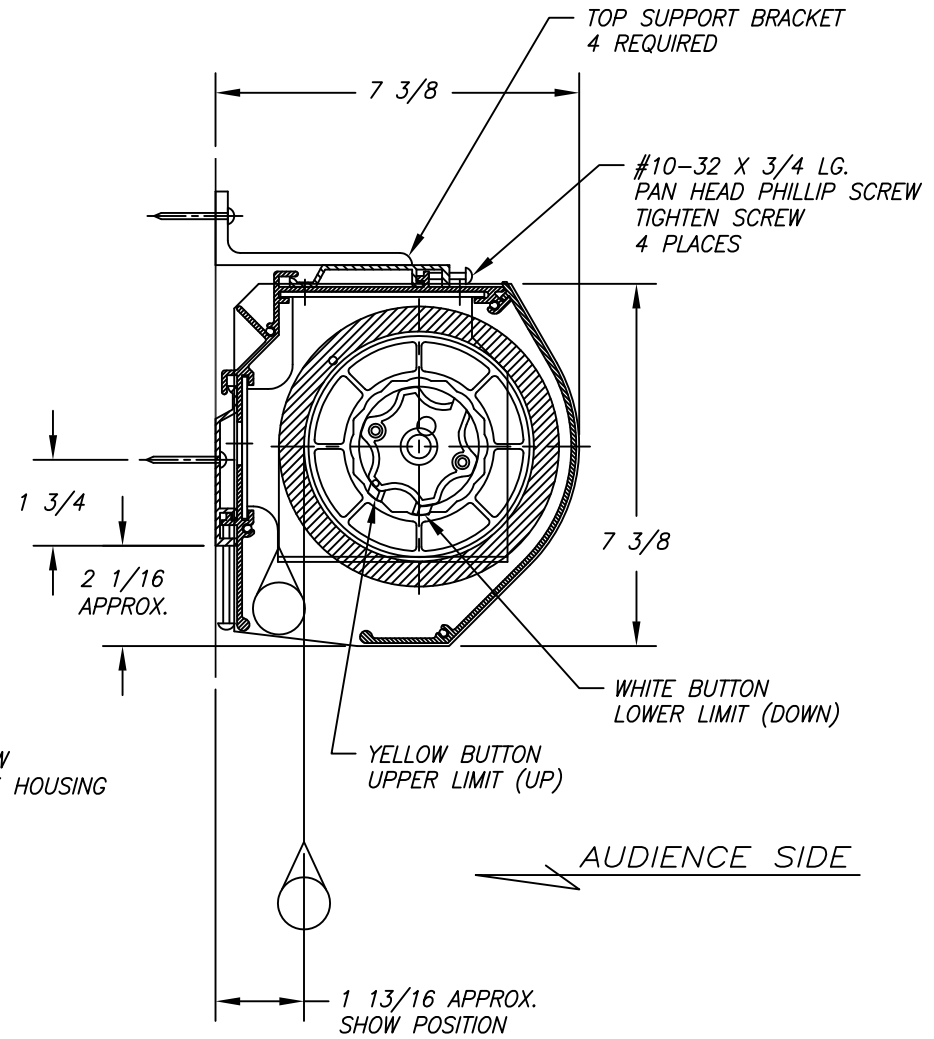

FIGURE 3
- 9 - BE SURE THE MOTOR LIMIT BUTTONS FACING THE OPENING OF THE HOUSING WHEN PLACING IT BACK. SEE FIGURE 3 OF STEP 2.